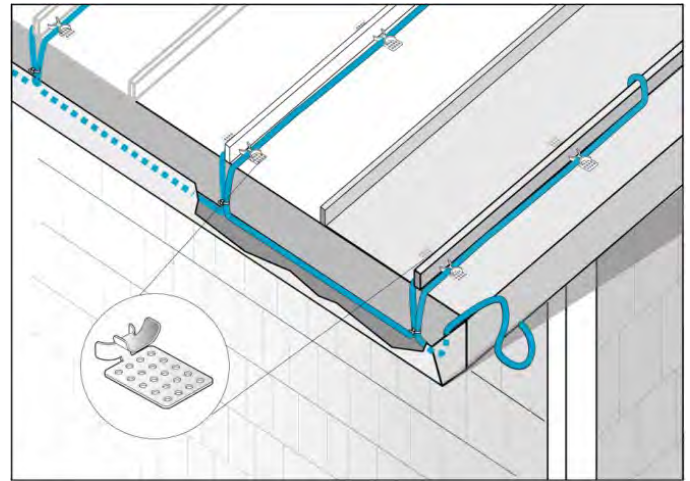

Figure 6: Roof Clip, Metal Roof
3. Use SRK13 roof clips to route heating cable up and down the edge of the roof according to the tracing height noted in the tables above and shown in Figures 6 and 7. Route the heating cable in such a way as to prevent abrasion to the cable jacket.